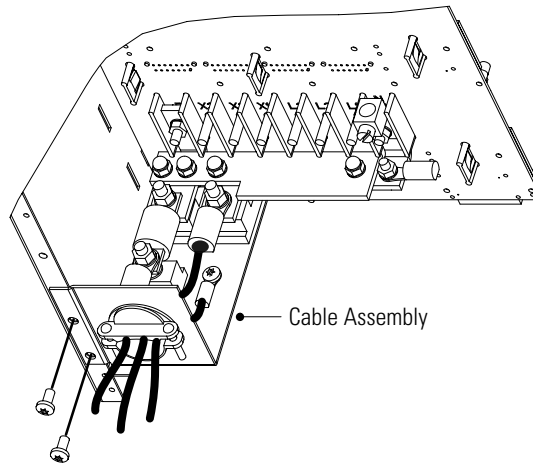

Figure 16. Battery Cable Assembly Installation
12. Align the screw holes of the cable assembly's entry plate with holes on the cabinet side panel as shown in Figure 16. Secure the entry plate with screws supplied with the cable assembly.
13. If the battery cable will be installed in customer-supplied flexible or other conduit (as required by local wiring codes), loosen the two screws holding the strain-relief clamp shown in Figure 16. Remove the clamp by loosening the star nut on the inside of the entry plate, leaving the nut in place. Replace the clamp with a panel-to-conduit feedthrough and secure it with the star nut.